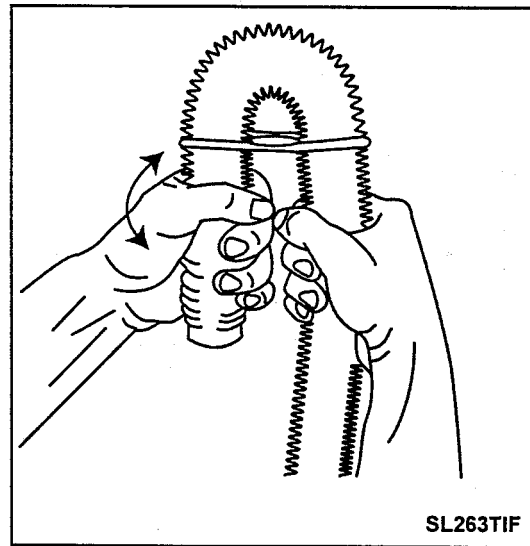

Figure 1-6
8. Install gooseneck end of drain hose into drain standpipe. Be sure the connection is not airtight between the drain hose and the standpipe. Standpipe must be at least 36" high. If the hose is twisted after it has been placed into the standpipe, adjust the end of the hose to remove the twist. To remove the twist, turn the short end of the hose while holding the base of the hose stationary (*Figure 1-6*).